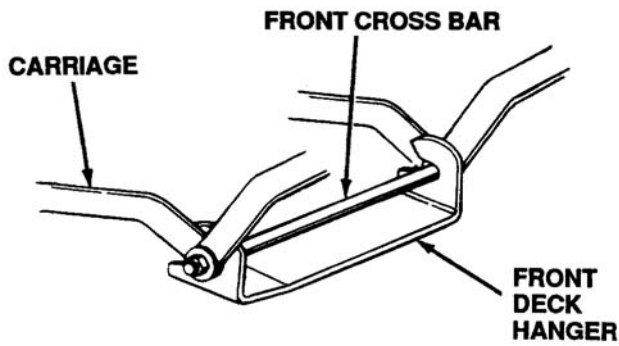

Figure 8-40. Location of Cross Bar
8. Lift front of mowing deck and push back, making sure the front deck handle slots go over front cross bars and between the spacers. See Figure 8-40.